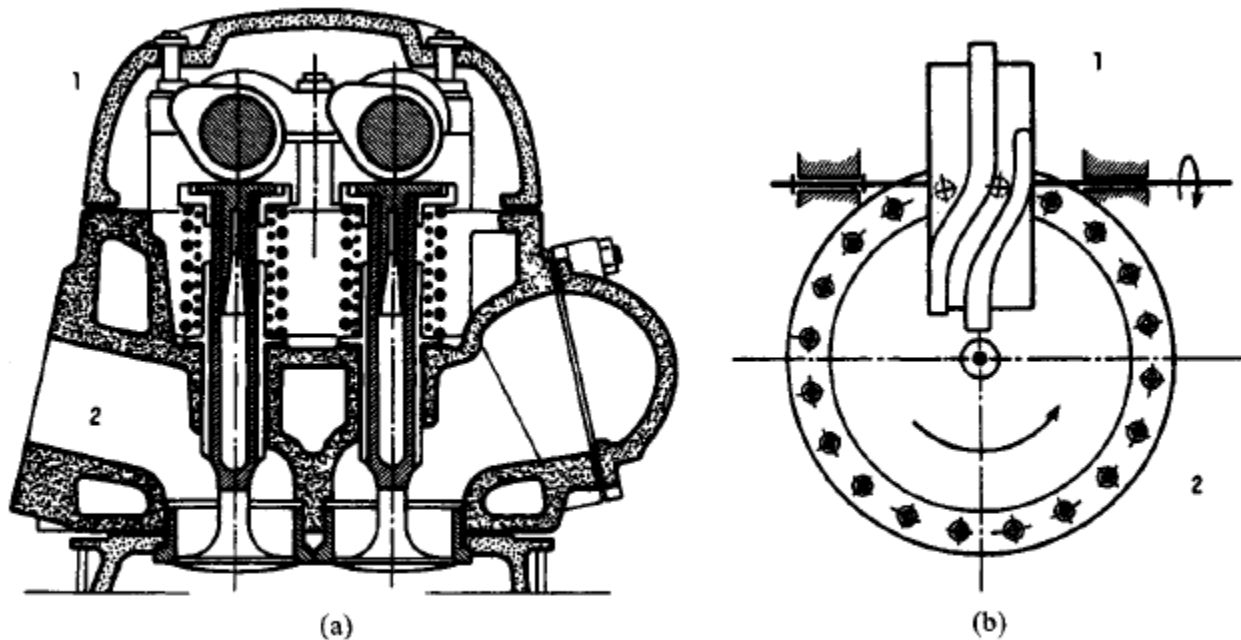

FIGURE 40.1 (a) Planar cam mechanism of the internal-combustion-engine D-R-D-R type; (b) spatial cam mechanism of the 16-mm film projector R-D-R type.
In a planar cam mechanism, all the points of the moving links describe paths in parallel planes. In a spatial mechanism, that requirement is not fulfilled. The design of mechanisms in the two groups has much in common. Thus the fundamentals of planar cam mechanism design can be easily applied to spatial cam mechanisms, which is not the case in linkages. Examples of planar and spatial mechanisms are depicted in Fig. 40.1. Planar cam systems may be classified in four ways:
(1) according to the motion of the follower—reciprocating or oscillating;
(2) in terms of the kind of follower surface in contact—for example, knife-edged, flat-faced, curved-shoe, or roller;
(3) in terms of the follower motion—such as dwell-rise-dwell-return (D-R-D-R), dwell rise- return (D-R-R), rise-return-rise (R-R-R), or rise-dwell-rise (R-D-R); and (4) in terms of the constraining of the follower—spring loading (Fig. 40.1«) or positive drive (Fig. 40.16). Plate cams acting with four different reciprocating